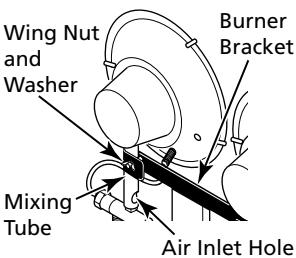

Figure 2 - Attaching Heater to Bracket
1. Place each burner head onto the burner bracket as shown in Figure 2.